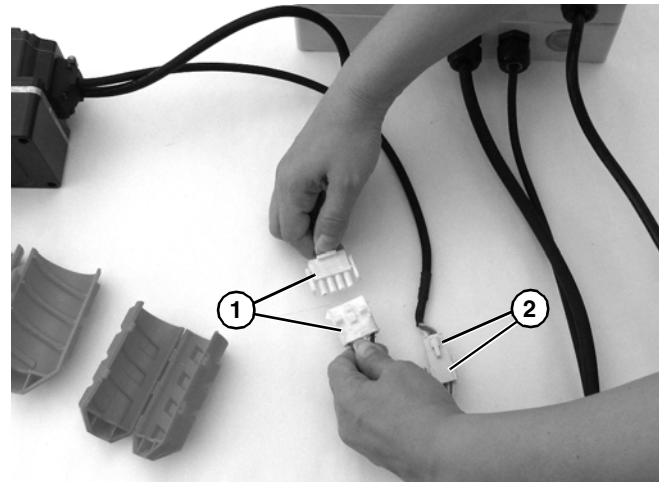

Figure 41
4. Unplug motor cord connectors (**Figure 41, item 1**) and signal cable connectors (**Figure 41, item 2**).